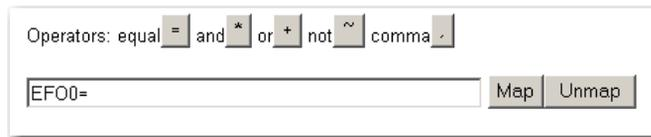

FIG. 332 ETHERNET/IP FLOAT OUT/ADDRESS EFO0
Step 6. Click on the Select button. An address appears in the text box below. You will have to scroll down to see it. In our example we selected “Ethernet/IP Float Out” which has an address of: “EFO0”. An equal “=” sign also appears. (See Fig. 332)